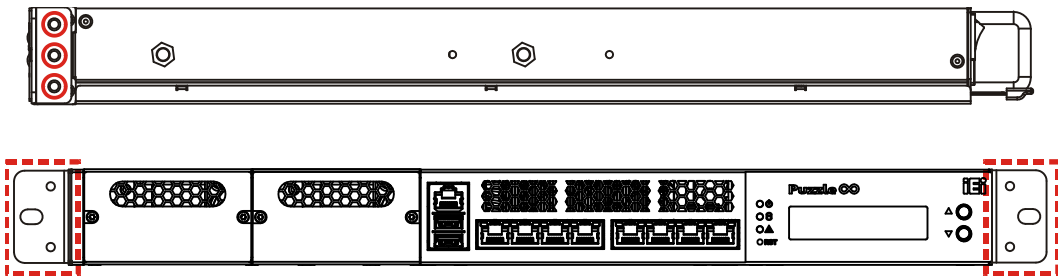

Figure 3-20: Rack Mount Bracket Installation
- Step 1:** Install the rack mount brackets to the sides of the PUZZLE-IN001 by inserting three retention screws (M4*6) into each bracket (**Figure 3-20**). Make sure the screws are tight and on the right positions.